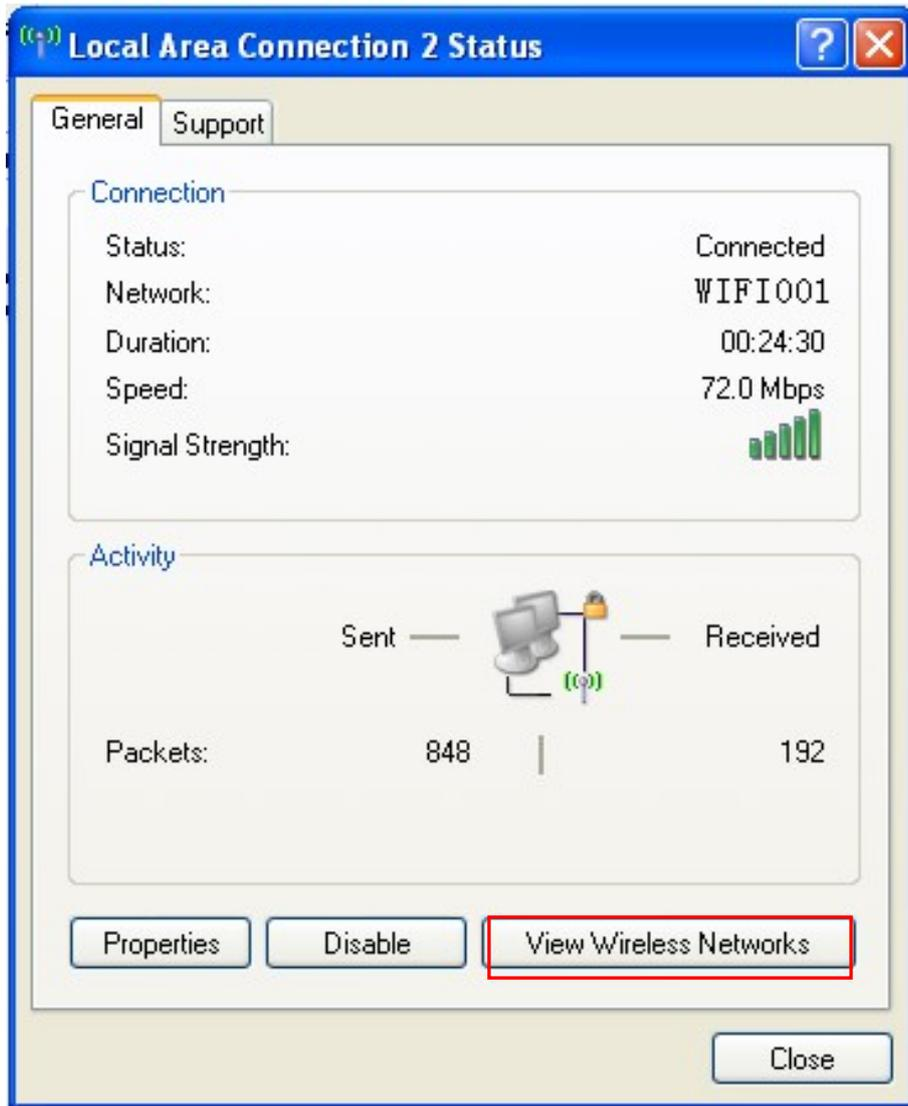
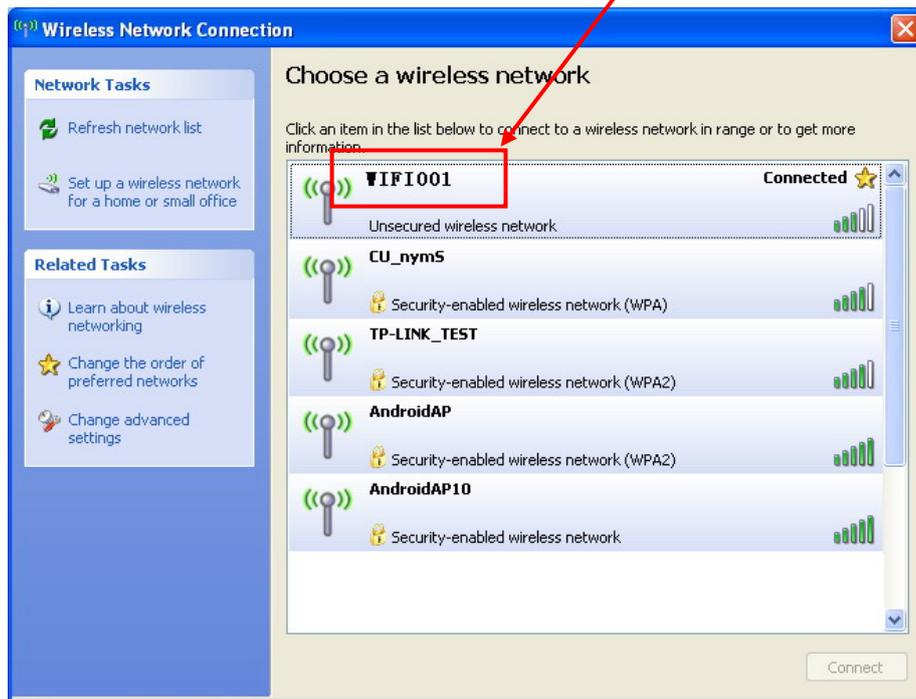

Figure 13
Figure 14
- ⑥ Close the windows in turn, then the dialog box “Local Area Connection 2 Status” pops up according to the operation of step ①, click “View Wireless Networks” (as shown in Figure 13). When the window of “Wireless Network Connection” pops up, double click the current hotspot and the connection will be disconnected (as shown in Figure 14).